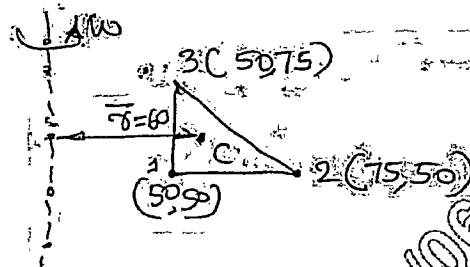

Fig.Q9(b)
- b. For the element of an axisymmetric body rotating with constant angular velocity $W = 1000 \text{ rev/min}$ as shown in Fig.Q9(b). Determine the body force vector including weight of material with specific density is 7850 kg/m^3 . (08 Marks)